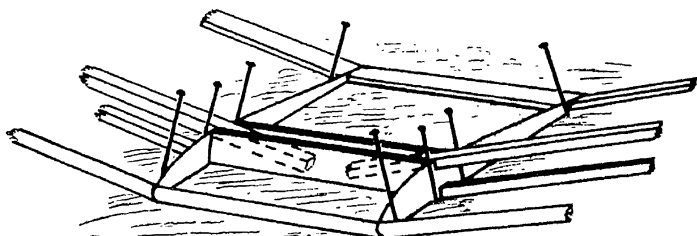

FIG. 2.
Also cut away half of the two struts on each side of the cut longeron, and fix two centre section bearers (D). These two bearers should be parallel and level (Fig. 2), as the centre section has to fit snugly down on them. At the tail, cut away the top longeron as far as the first struts so that the two side longerons form the tail plane bearers (Fig. 3). Cut a piece of
Put the wing in position in the slot and make a fairing (W, Fig. 2) to fit above it and carry on the line of the fuselage. The best way to do this is to make one in paper first, trimming it accurately to fill the space, and then using it as a template to mark out two
Cut the two centre-section spar sides (W) from  $\frac{3}{16}$ -inch plywood and cement them each side of the projecting upper spar ends while the wing tips are supported on 1-inch blocks. Fix short lengths of leading and trailing edge in position and cramp the whole framework with pins (Fig. 2)